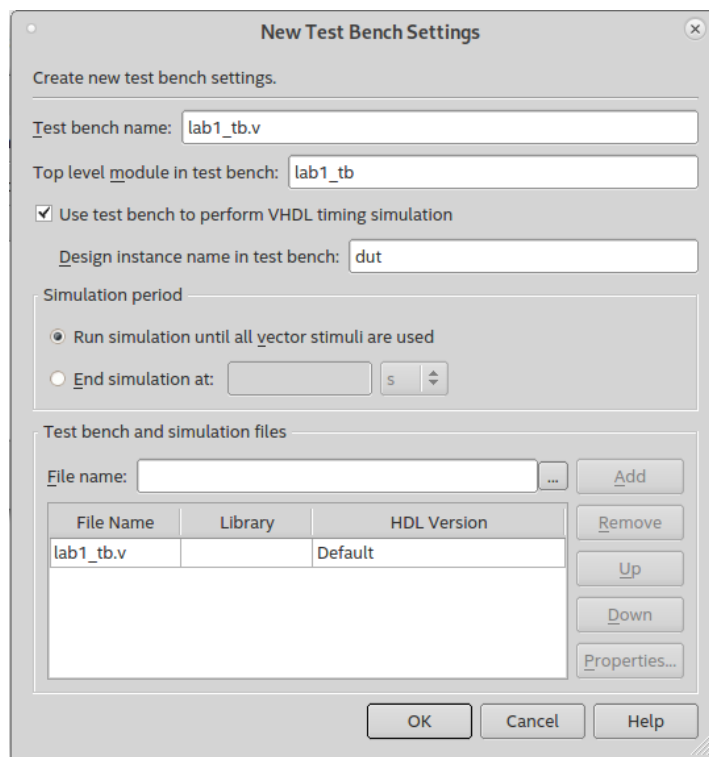

Figure 14: Testbench settings dialog.
4. Select the "Compile test bench" option, and click on the "Test Benches" button. Select `lab1_tb.v` and click the "Edit" button. Ensure the various fields match the dialog in Fig. 14.